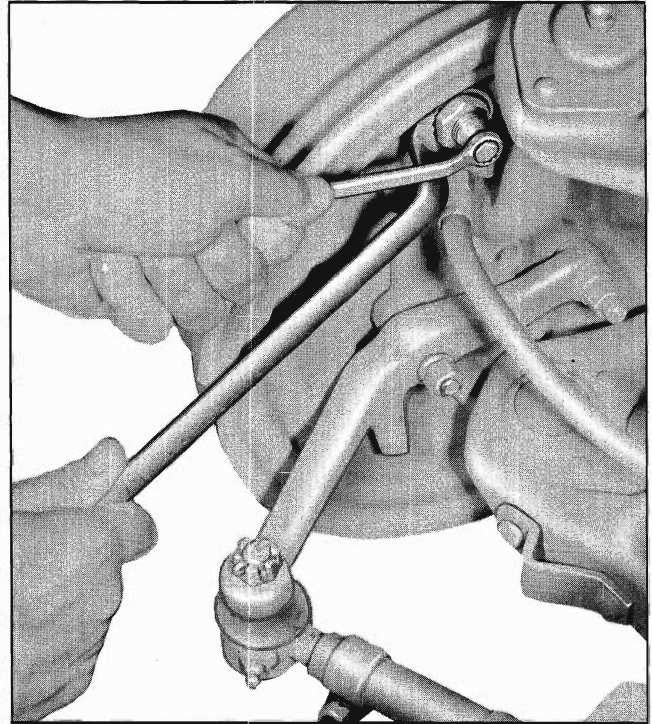

Fig. 5-9 Adjusting Anchor Pin
8. Change clearance at anchor pin end of lining by rotating anchor pin (Fig. 5-9). Rear brakes having fixed anchors require replacement of any parts preventing proper clearances.